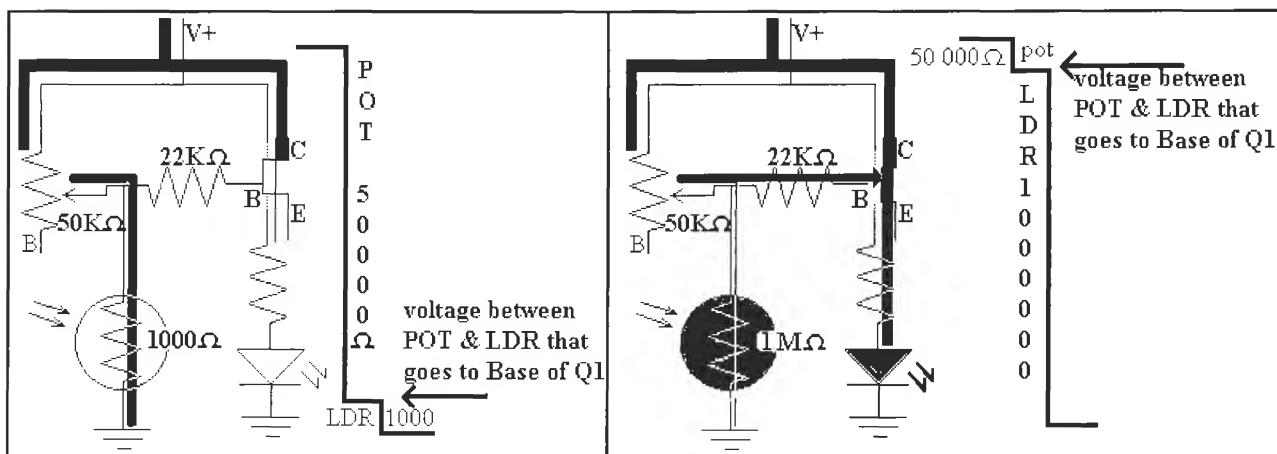

Figure L11-5
4. OK. Figure L11-5 will help explain how all the voltage in this circuit is used.